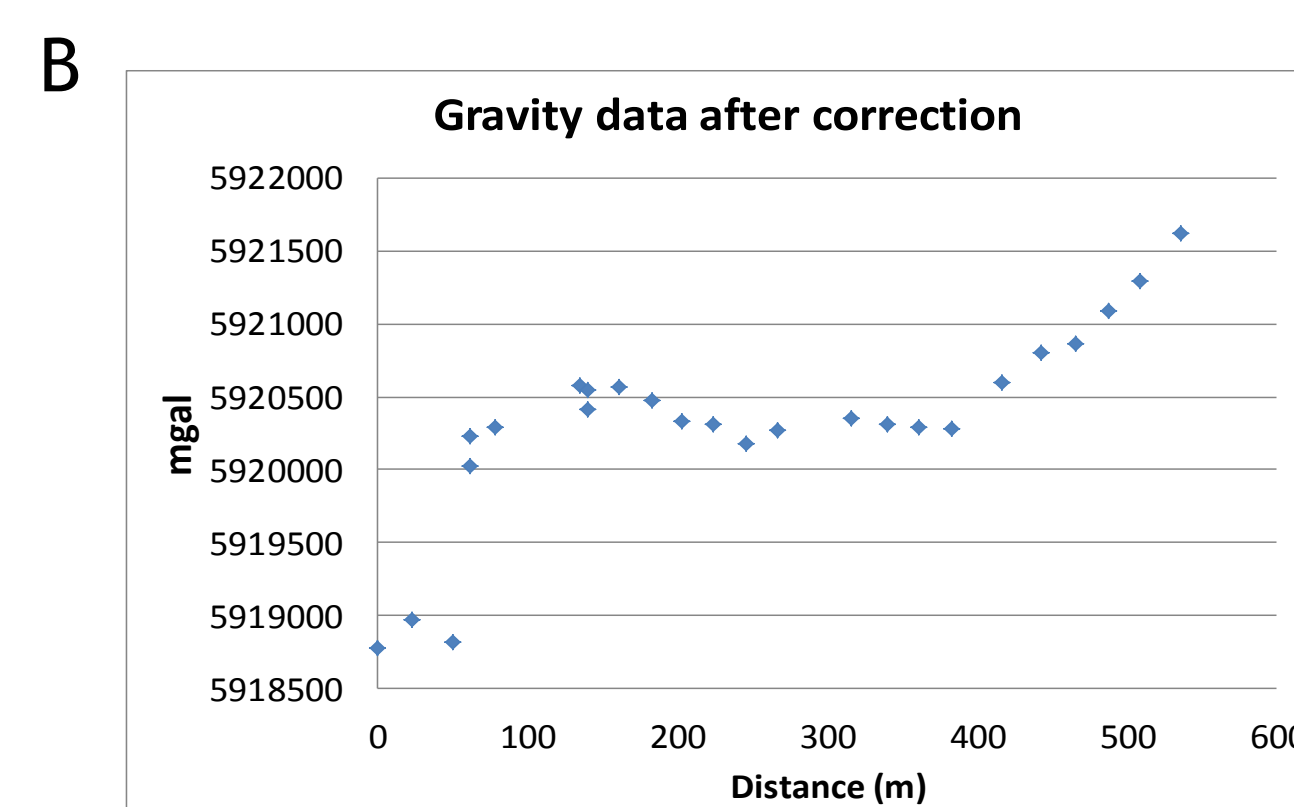

Fig 8: gravity data
- Gravity method: detect the contrast of density between the mineralization and the host-rocks (Fig 8)